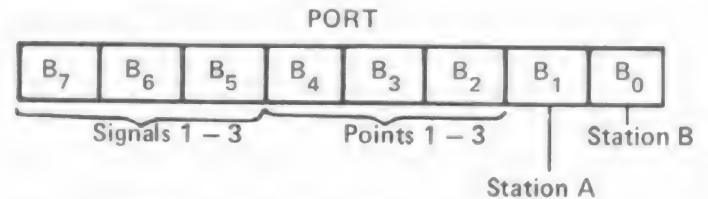

Fig.11. Analysing an input port's data.
3. When data is input from a port, that data can be analysed by bit test instructions e.g. If a port is being used to monitor the progress of a train on a model railway, several monitoring positions can be set around the track and allocated a bit in the PORT as a window, see Fig.11.
4. External equipment can be switched by setting specific bits in a O/P Port. Continuing with the example shown in Fig.11 setting Bit 3, point 2 can be operated, by resetting B3 that point can be released.